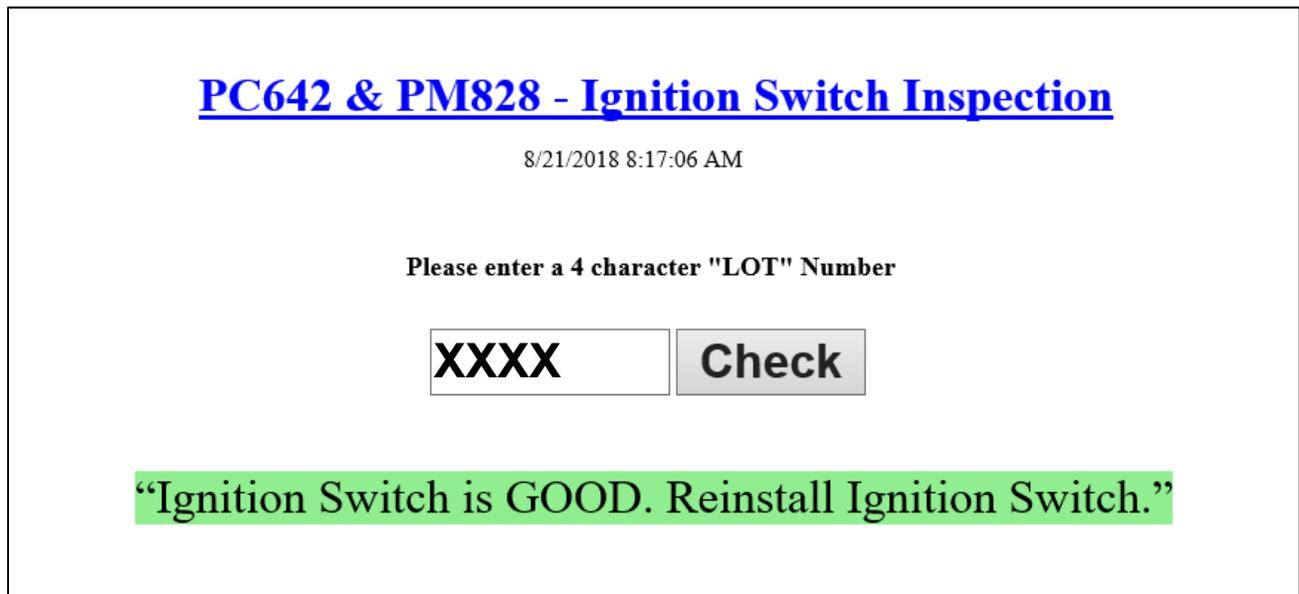

Figure 58
7. If the ignition switch is **GOOD** as shown in Figure 58 then the ignition switch **DOES NOT** need to be replaced.